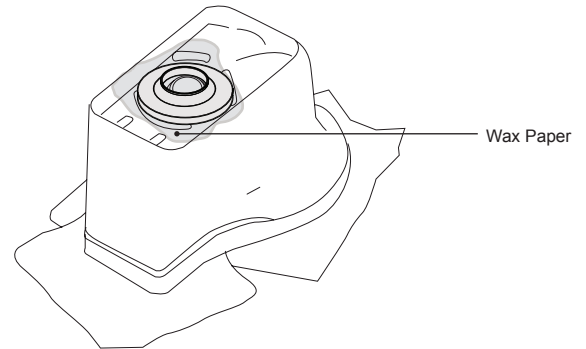

Figure 4
**3** Place a piece of wax paper over the wax ring and press the wax ring firmly into place (Figure 4).